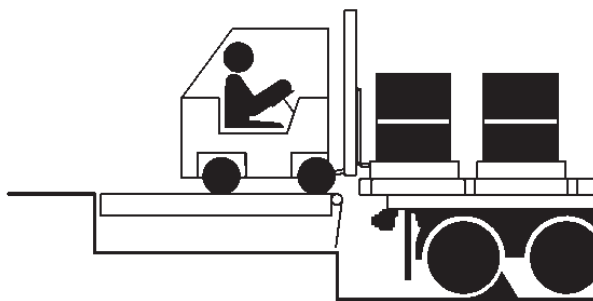

Figure 26
6. Proceed with loading or unloading, see **Figure 26**.